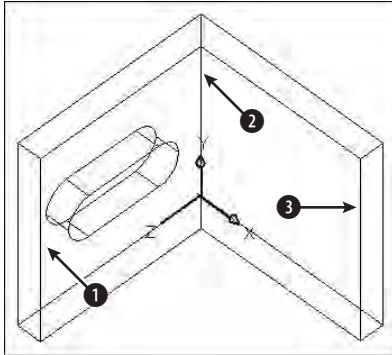
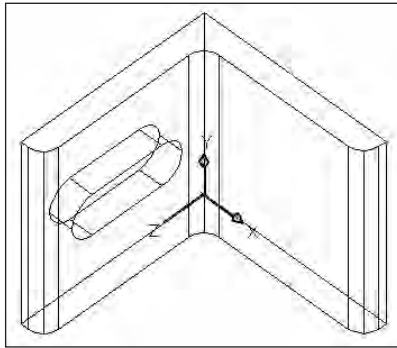

Figure 24-35: The mounting angle needs filleting.
Figure 24-36: The filleted mounting angle
2. Save the file as `ab24-11.dwg` in your `AutoCAD Bible` folder. This is a solid model of a mounting angle, as shown in Figure 24-35. It needs to be filleted.
4. At the `Select first object or [Polyline/Radius/Trim/mUltiple]:` prompt, pick the edge at ① in Figure 24-35.
6. At the `Select an edge or [Chain/Radius]:` prompt, pick ②.
7. At the `Select an edge or [Chain/Radius]:` prompt, pick ③. Press `Enter` to end the command. AutoCAD fillets all three edges.
8. Save your drawing. It should look like Figure 24-36.